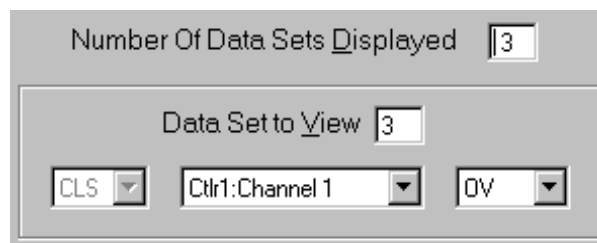

FIGURE 7-15 Data Sets Parameters
The data sets parameters, shown in Figure 7-15, refer to a specific plot entry. For instance, a data set could be the Process Variable (PV) for Controller 1, Channel 3. Up to nine data sets can be displayed on the plot at one time. You must set up each data set individually.